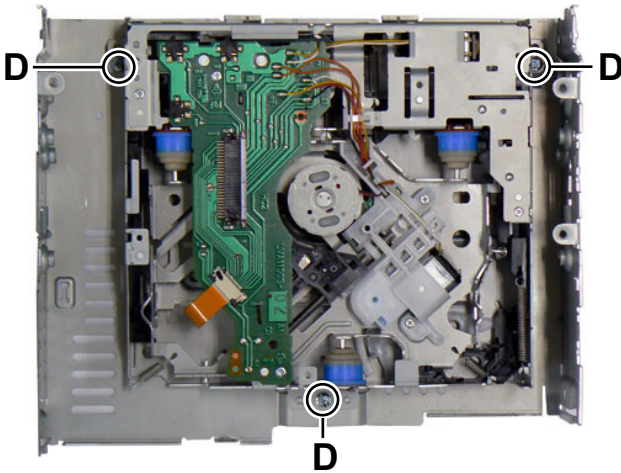

Fig.7
3.1.4 Removing the CD mechanism (See Fig.7)